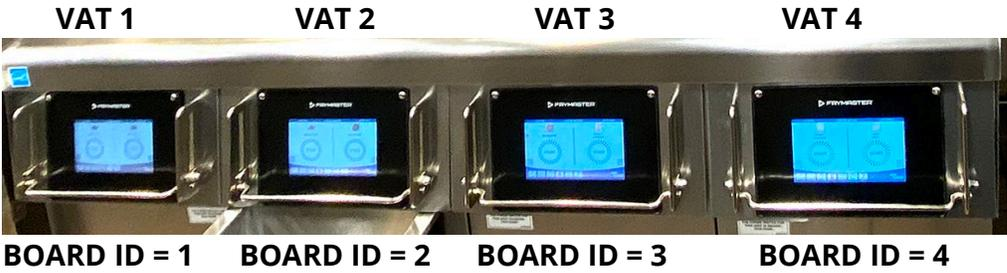

Figure 17
19. The following values below should be shown for the corresponding vat locations (see Figure 17).